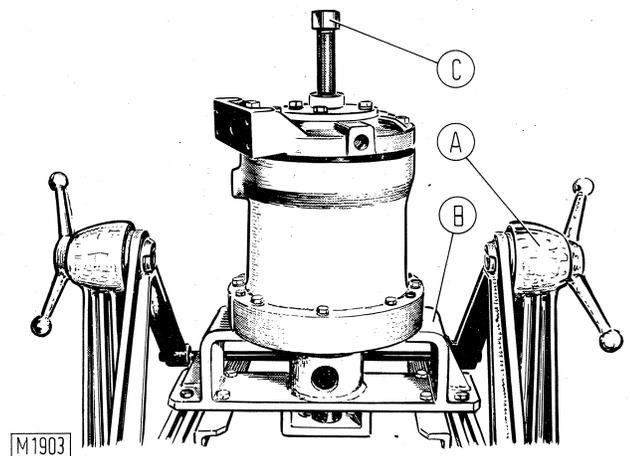

Fig. 2-2 - Disassembly of rear end plate.
Place the motor on overhaul stand 75290086 (A, fig. 2-2) by means of support 75292992 (B) and proceed as follows:
- remove nut (3), screws (C₂) securing rear end plate (2) to housing (10) and remove end plate (2) with bearing (5) from motor housing using puller 75295466 (C, fig. 2-2) mounted as shown in illustration;
- install shaft (4) into the front end plate; be careful not to damage lip seal (16). Place the assembly on the stand using support 75292992 (B,fig.2-2);